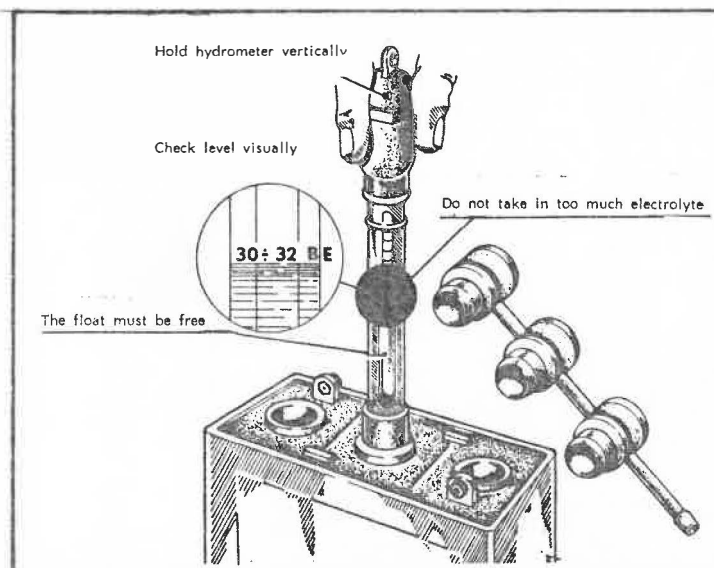

Fig. 69
- 2) Restore the electrolyte level and check the S.G. with an hydrometer (see fig. 69).